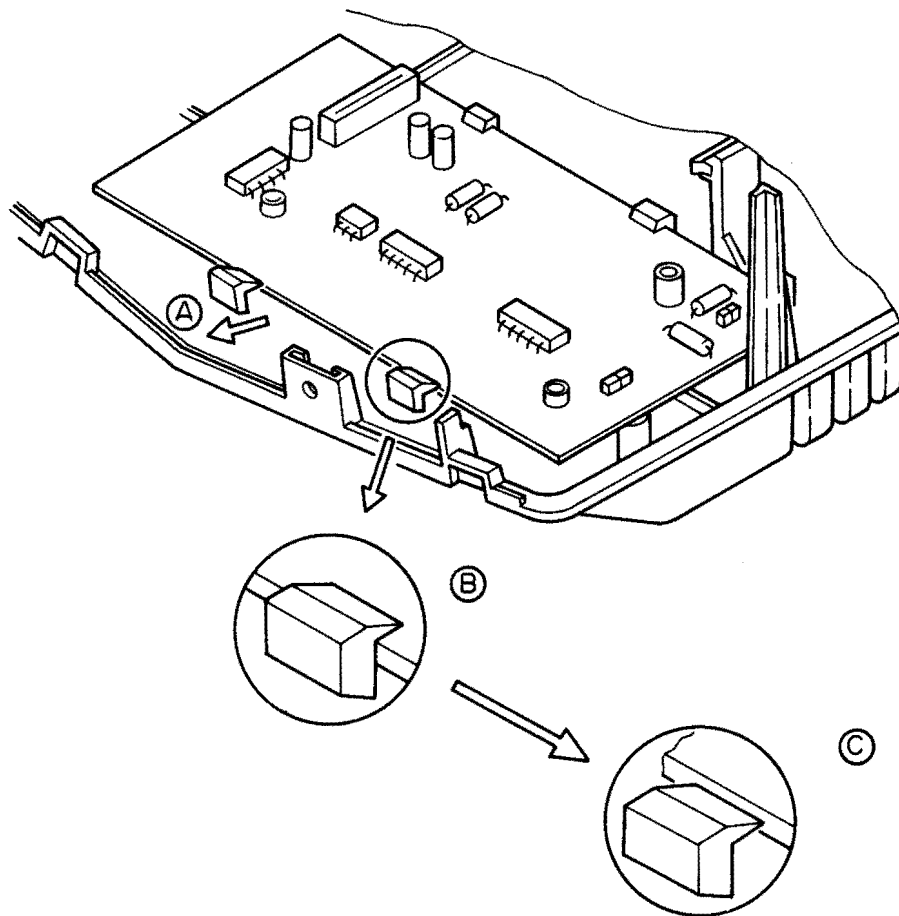

Figure 41.
4. In order to dismount the Modem Unit, deform the front portion of the Base Cover by forcing it in the direction of arrow (A) (shown in Figure 41) and disengage the Modem Unit from catches ③ and ④. Although the Modem Unit is held by catches ③ and ④, as shown in enlarged view (B) (Figure 41), the Modem Unit may be disengaged from them, as shown in enlarged view (C) (Figure 41), when the lower cover is deformed. The lower cover will return to its original shape when it is released.